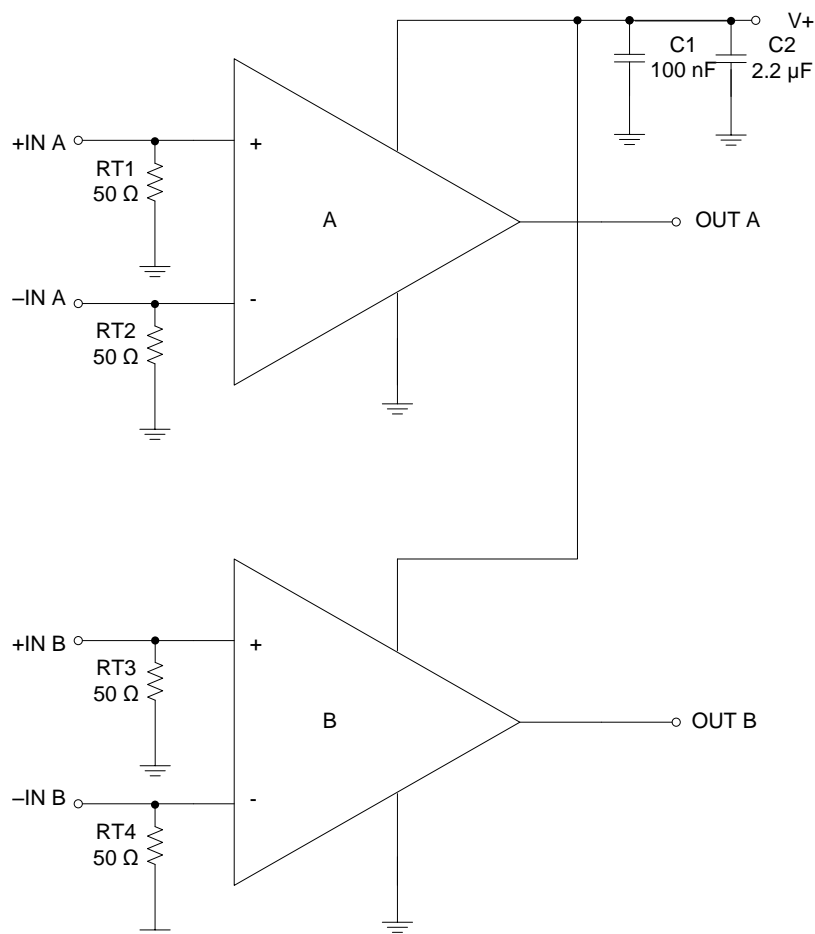

Figure 22. Schematic for Figure 21
- Figure 21 shows an evaluation layout for the TLV3502-Q1 SOT23-8 package. The device is shown with SMA connectors bringing signals on and off the board. RT1, RT2, RT3 and RT4 are termination resistors for + IN A, + IN B, -IN A, and -IN B respectively. C1 and C2 are power-supply bypass capacitors. Place the 0.1- $\mu$ F capacitor closest to the comparator. The ground plane is not shown, but the pads that the resistors and capacitors connect to are shown. Figure 22 shows a schematic of this circuit.